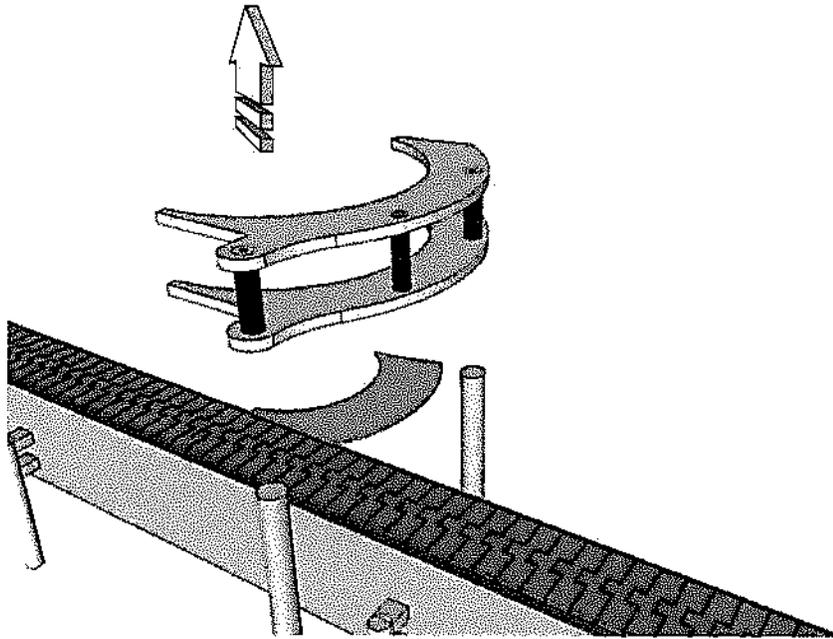

fig.12
- Remove the conveyor, lifting it upwards (fig.12):